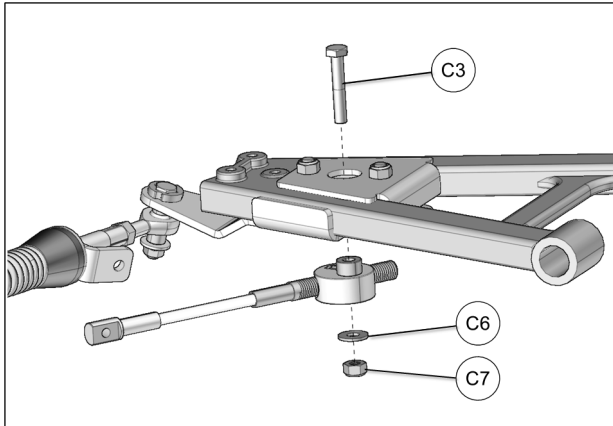

Fig. 24
13. Attach steering limiter cable assembly under anchor bracket using bolt (C3) inserted through bracket cover, washer (C6) and nut (C7). Tighten nut to 50 N•m [37 lb•ft]. Refer to Fig. 24